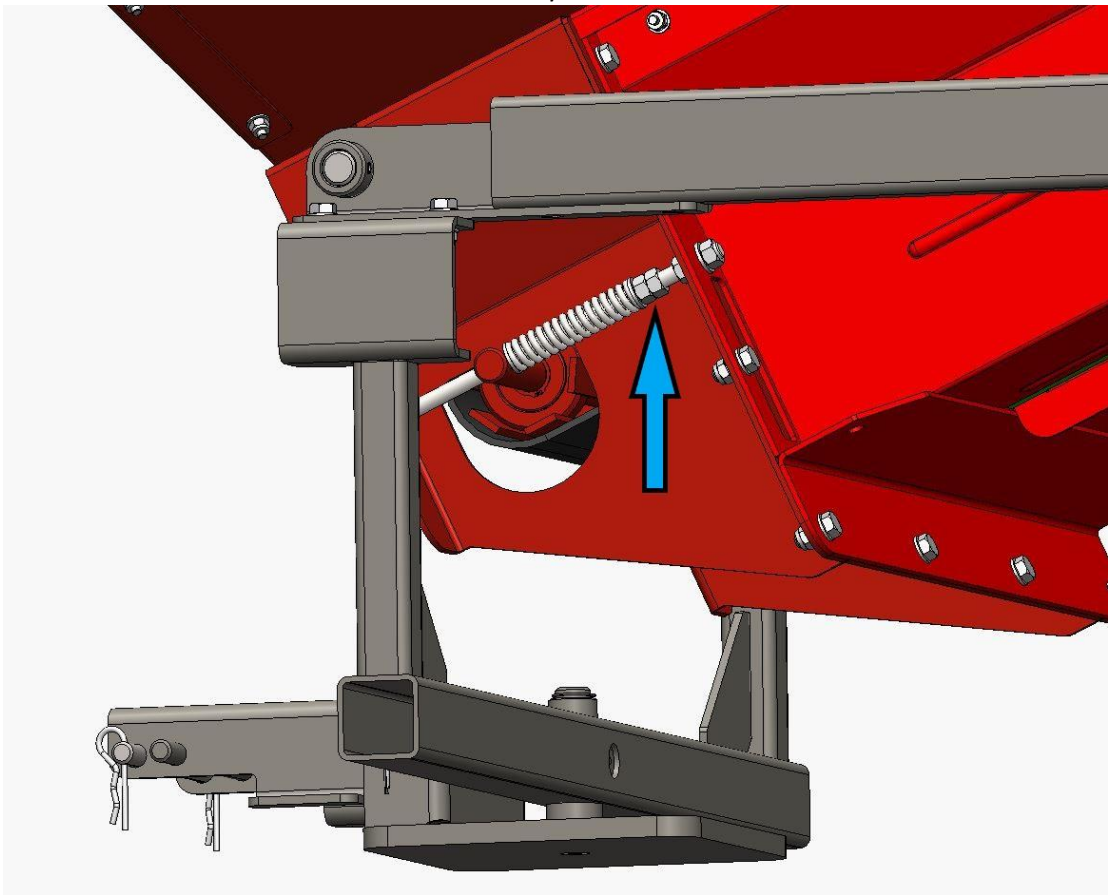

Figure 4.
1. Loosen the tightening nut (upper) indicated by the arrow in Figure 4 from both sides.
2. Tighten/loosen the belt with the lower nut in Figure 4 (the same amount on both sides of the belt). If the belt is crooked, loosen the nut (in relation to the spring) on the side towards which you wish to align the belt.
3. When the conveyor belt is at the correct tension and properly aligned, tighten the fastening nuts (Figure 4) tightly against each other on both sides. Note! Do not overtighten the belt – the spring must have room to compress and expand. Note! If you run out of clearance to tension the belt, use the other fastening holes at the connection point.